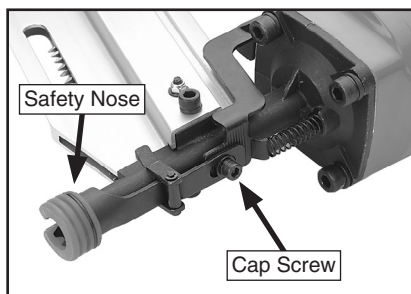

Figure 10. Loosening cap screw for depth adjustment.
2. Use a 4mm hex wrench to loosen the cap screw shown in **Figure 10**.